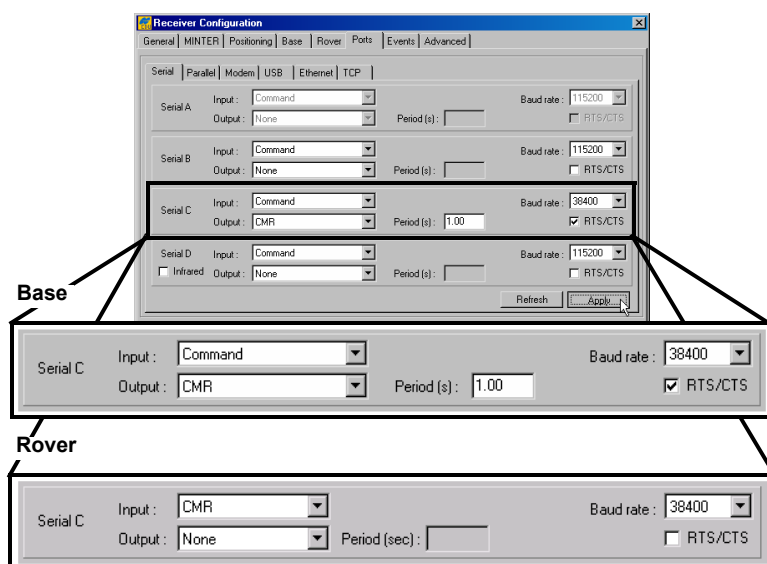

Figure 3-27. Base and Rover Configuration for RTK Surveys – Ports
11. For RTK surveys, click the *Ports* tab and set the following port parameters for the serial port (Table 3-10), then click **Apply** (Figure 3-27 on page 3-34).